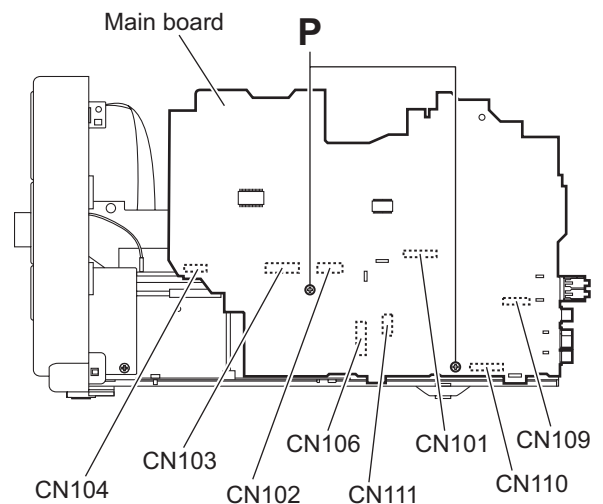

Fig.12
3.1.9 Removing the main board (See Fig.12)
- (1) From the right side of the main body, remove the two screws **P** attaching the main board. (See Fig.12.)
- (2) Disconnect the connectors (CN101 to CN104, CN106 and CN110) on the main board toward this side. (See Fig.12.)
- (3) From the forward side of the main board, disconnect the wires from the connectors (CN109 and CN111). (See Fig.12.)